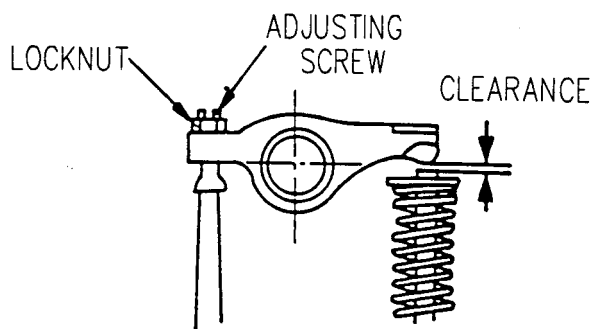

Figure 4-11. Valve Adjustment
- d. Loosen nut for adjusting screw and adjust screw until correct clearance [0.006 in. (0.15 mm)] is achieved between rocker arm and valve cap, refer to Figure 4-11.